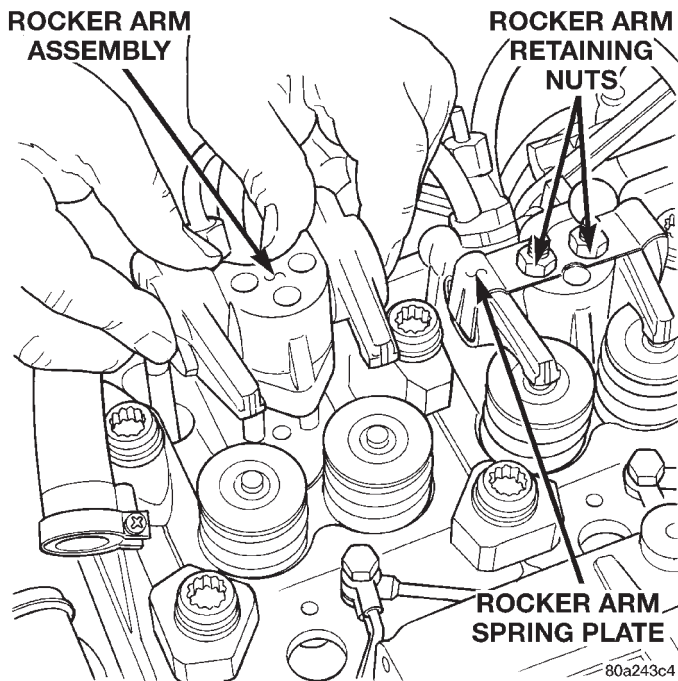
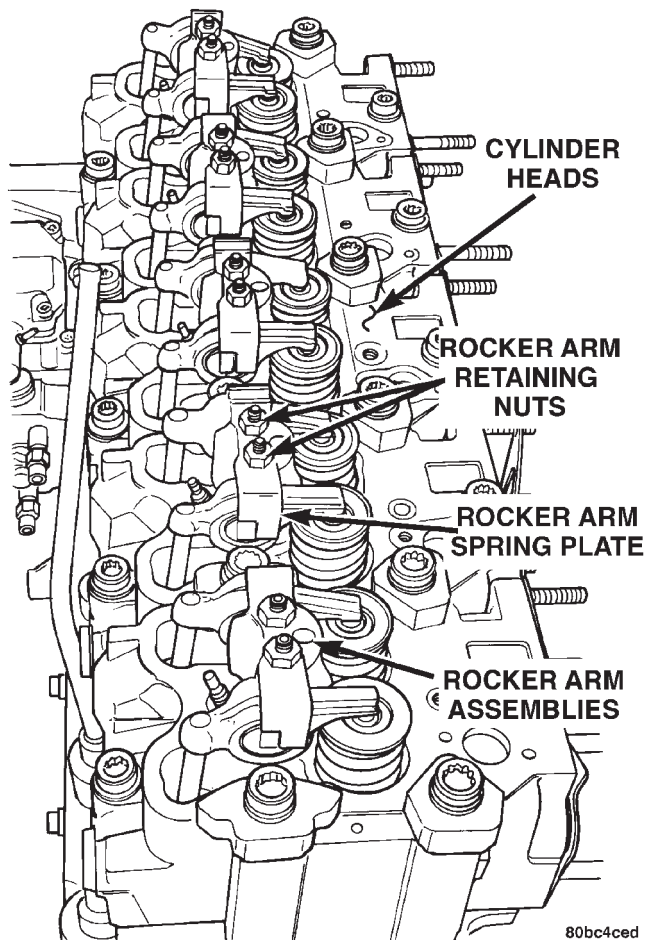

Fig. 52 Rocker Arm Retaining Nut
Fig. 53 Rocker Arm Assemblies
(1) Disconnect the negative battery cable.
(2) Discharge the air conditioning system. Refer to Group 24, Heating and Air Conditioning for procedure.
(3) Remove the service valves and cap the compressor ports. Refer to Group 24, Heating and Air Conditioning.
(4) Remove the cylinder head cover. Refer to cylinder head cover removal and installation in this section.
(5) Remove the rocker arm retaining nut (Fig. 52) (Fig. 53).
(6) Remove the rocker assembly. Place them on a bench in the same order as removed.
(7) Remove the push rods and place them on a bench in the same order as removed.